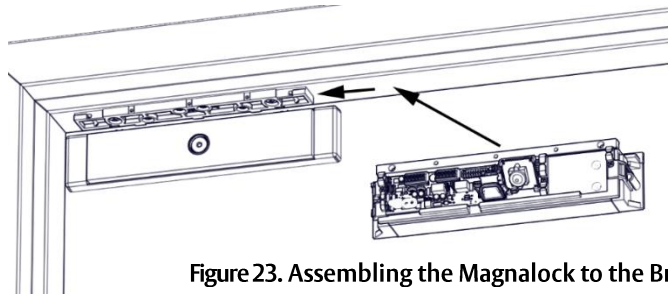

Figure 23. Assembling the Magnalock to the Bracket
2. SLIDE the lock onto the mounting bracket and TEST FIT against the strike plate with the door closed (see Figure 23, "Assembling the Magnalock to the Bracket").